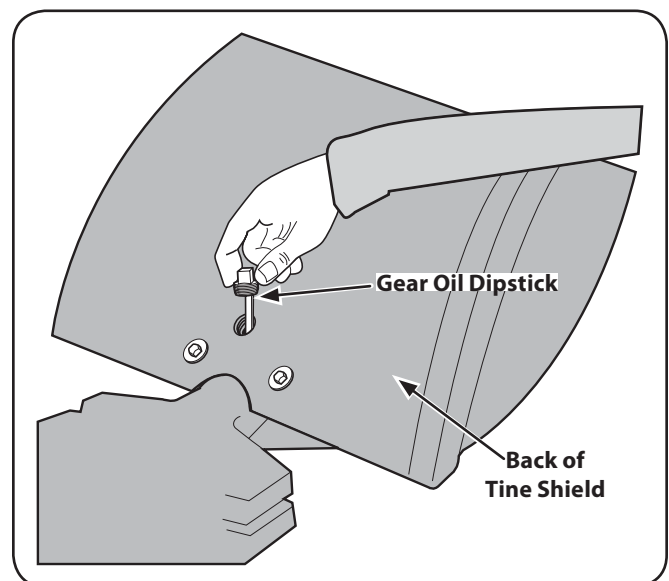

Figure 6-7
NOTE: Two different gear oil checking procedures for the tine attachment transmission are described next. Use the first procedure if the dipstick in your tine attachment has only a 'Check Cold' marking. Use the second procedure if the dipstick has both cold and hot markings at the end. First remove the dipstick from the tine attachment transmission to see which type of dipstick you have. See Fig. 6-7. Then replace the dipstick with the markings on the dipstick facing to the rear.
6. Loosen and remove the transmission dipstick on the back of the tine shield. See Fig. 6-7. Wipe it clean with a rag.
7. Hold the dipstick so its markings face to the rear of tiller. Lower it straight down into the sump hole to touch the drive shaft inside. See Fig. 6-7. Don't force or try to thread it back in; an incorrect reading will result.
2. Using a ¾" wrench (or socket), remove the bolt securing the handlebar base to the top of the transmission (prop the handlebars first to prevent them from falling). Then, unplug the Forward Interlock wire harness receptacle at the bottom of the handlebars. Set the handlebar base and bolt aside on a clean surface. The bolt hole in the top of the transmission is the gear oil fill hole. See Fig. 6-7.
3. Slowly pour gear oil through a clean funnel into the transmission. Stop when gear oil begins to flow from the oil level check hole on the left side of the transmission. See Fig. 6-7.